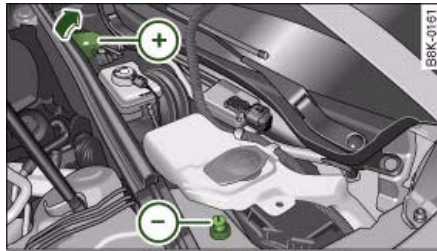

Fig. 248 Engine compartment: Terminals for jump leads and battery charger
The jump-start terminals are located in the engine compartment ⇒ fig. 248.
- Open the red cap on the positive terminal ⇒ fig. 248.